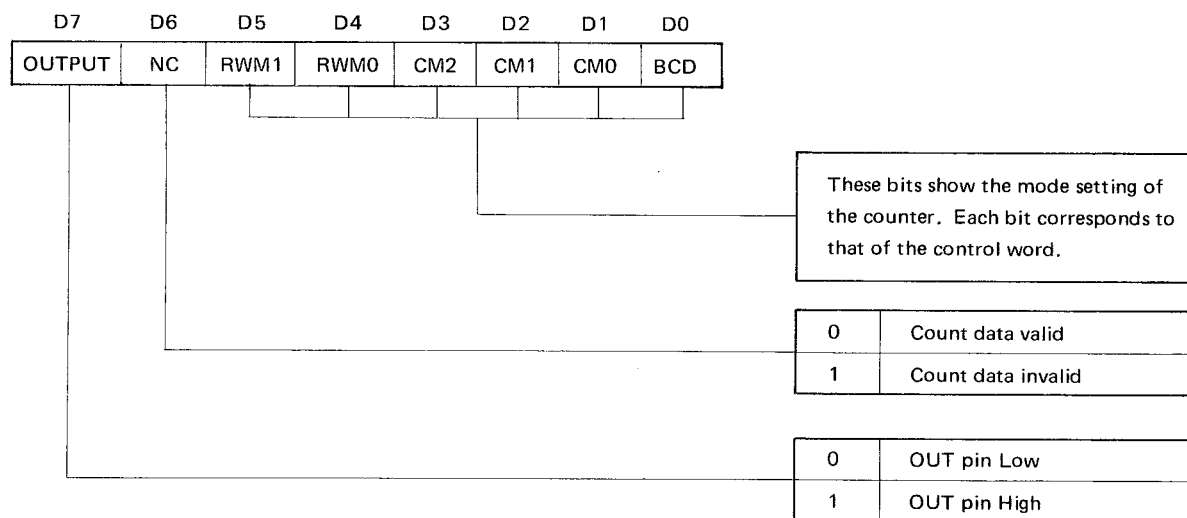

Fig. 4-5 Status Data
When the $\overline{COUNT}$ bit [D5] is 0, the count data of the selected counters are latched in the count latches. When the $\overline{STATUS}$ bit [D4] is 0, the status data (see Fig. 4-5) of the selected counters are latched in the status latches. Bits D5 to D0 of the status data show the mode status of the counter and the OUTPUT bit [D7] shows the state of the OUT pin of that counter. The Null Count (NC) Bit [D6] indicates whether or not the count data is valid. When the count is transferred from the count register to the down counter, this bit changes to 0 showing that the new data is valid (refer to Table 4-4).